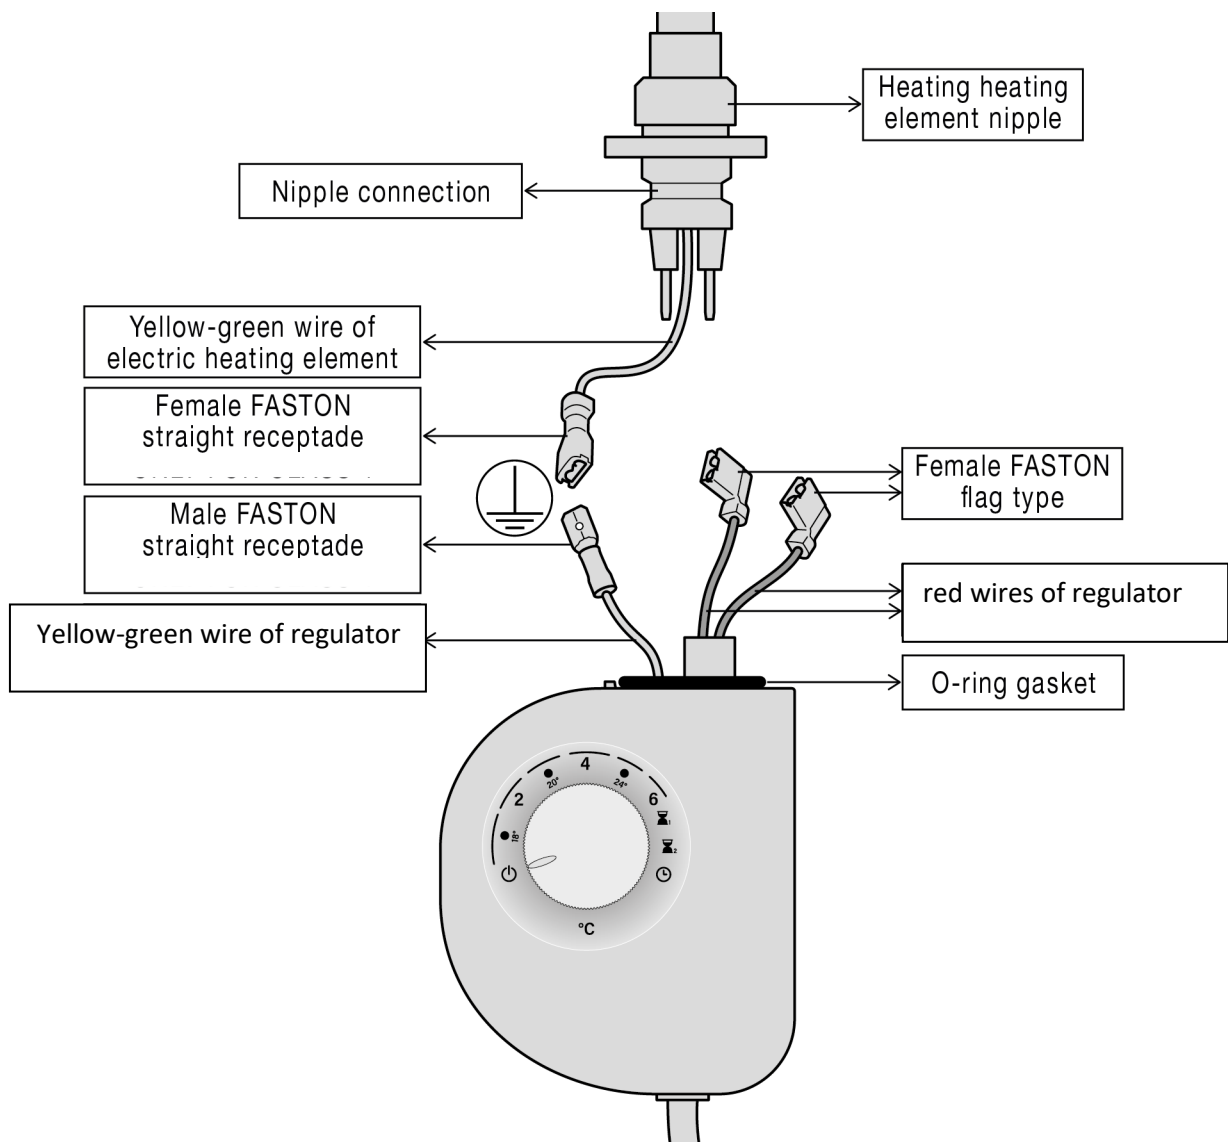

Figure 7
- Delicately extract the wires from the hole in the top of the regulator and connect them to the electric heating element. In case of the regulator Class I version, connect the male FASTON tab contact of the regulator's yellow-green wire to the female FASTON straight receptacle contact of the corresponding yellow-green wire of the electric heating element. Connect the female FASTON flag type receptacles of the neutral and live wires (red or color different from yellow-green) of the regulator, which are interchangeable, to the flat contacts of the electric heating element (Fig. 7).